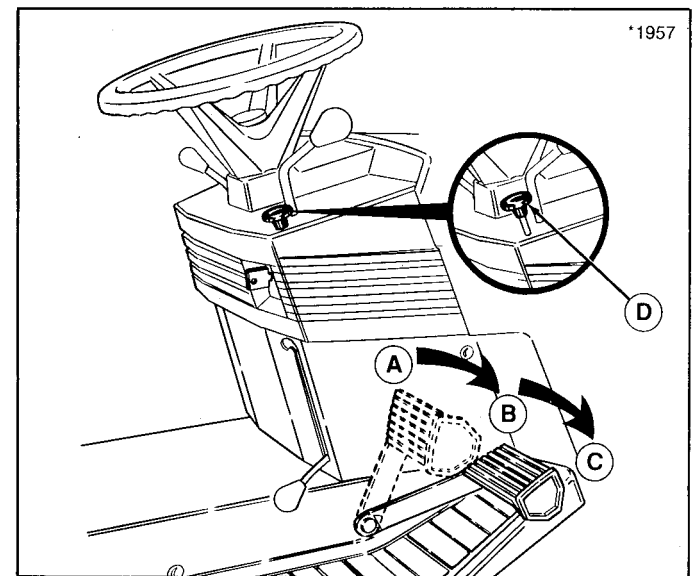

Figure 6. Clutch/Brake/Parking Brake Pedal
12. **Before leaving operator's position**, set the parking brake and disengage the mower PTO. (The parking brake is shown set in figure 6.) Set the engine speed control to SLOW and allow the engine to idle for 20 seconds. Turn the key to OFF and remove it. Wait for moving parts to stop.
Refer to figure 6. Depressing pedal from position A to B disengages transmission drive. tractor brake applies and returns the transmission control lever to neutral. Parking brake is applied at position C when parking brake control knob (D, figure 6) is pulled up with pedal fully depressed.